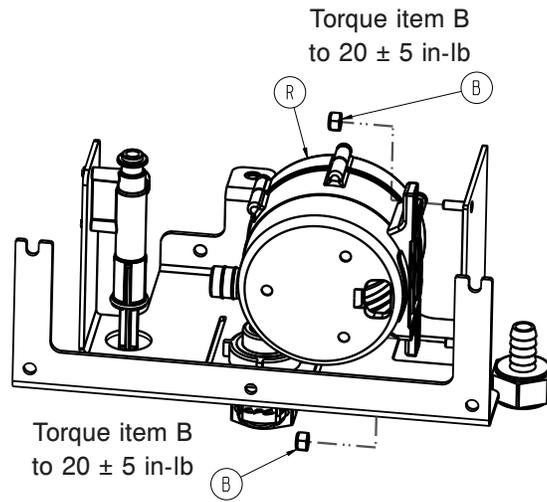

Figure 20 – Fluid pump to the fluid bracket
7. Pull up and rotate the fluid assembly bracket to gain access to the fluid pump (R) (Figure 20).
9. Using a 3/8" combination wrench, remove the two nuts (B) that secure the fluid pump to the fluid bracket (Figure 20). Save the nuts.